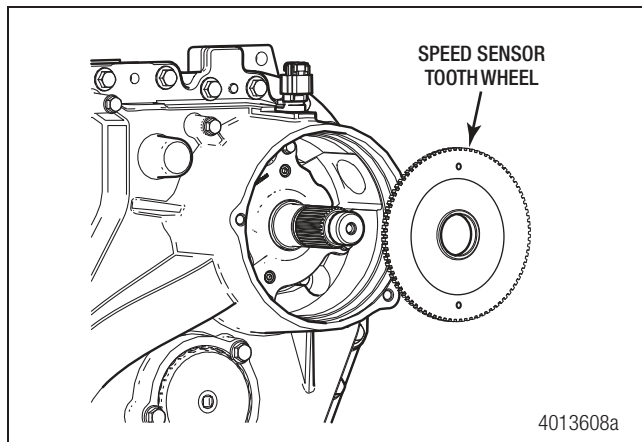

Figure 7.36
17. Use a suitable tool to install the speed sensor tooth wheel on the input shaft and make sure it is correctly seated. Figure 7.36.